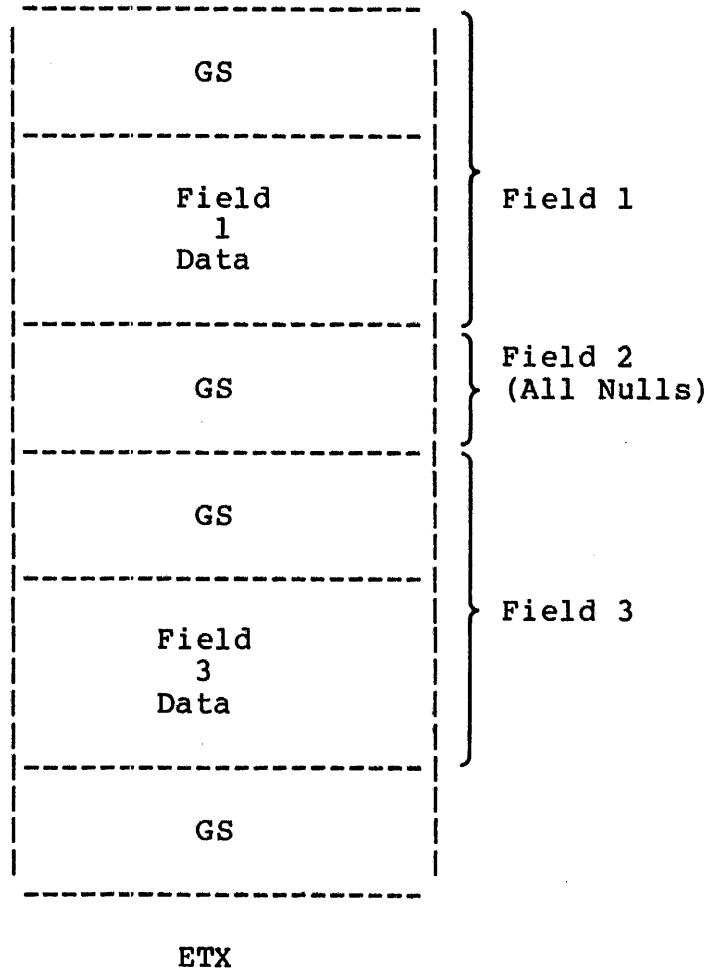

Figure 5-8 Read Unprotected Format (Model 1200 VDU)
3. Read Unprotected. If the screen is unformatted; (i.e., contains no fields) this operation has the same effect as read/send all. If the screen is formatted, only unprotected fields are transmitted; nulls are suppressed. A field containing all nulls is indicated by a single group separator (GS) on the Model 1200 or a single Formatted-Send Modified, Send Unprotected-Field Terminator on the Models 1250/1251. The data formats are illustrated in Figure 5-8 and 5-9.